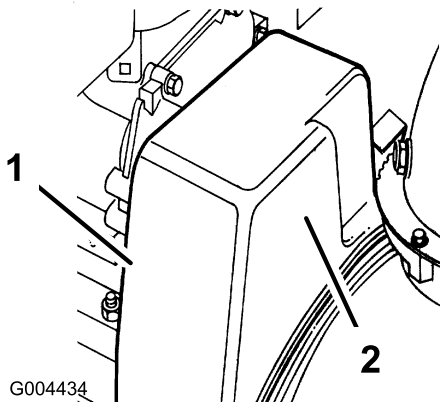

Figure 37
2. Remove the 2 flange-head bolts that hold the belt cover in place and set the cover aside (Figure 37).
1. Remove the 2 flange-head bolts that hold the belt cover in place and set the cover aside (Figure 37).